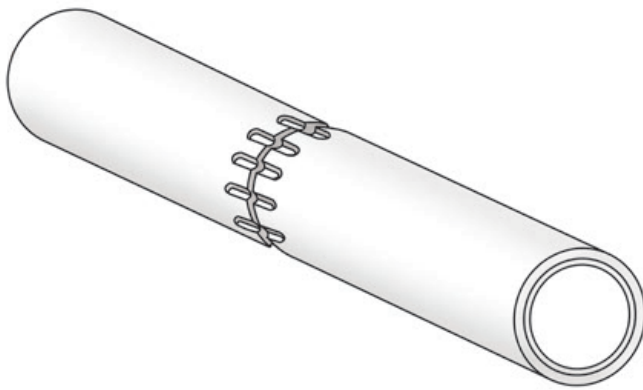

Figure 27
- One piece full width pulleys that fully support the belt edges (see Figure 27) are ideal for these applications.